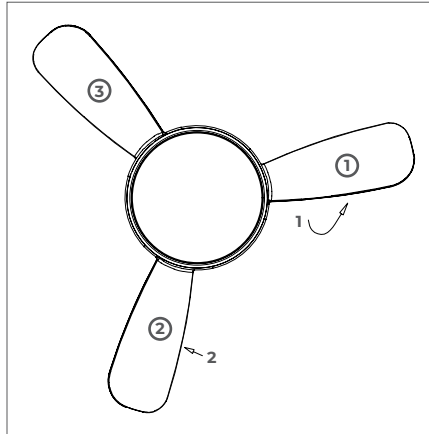

FIGURE 1
A) As shown in Figure 1, take off fan blades 1 and lock them tightly against each other to observe the effect.